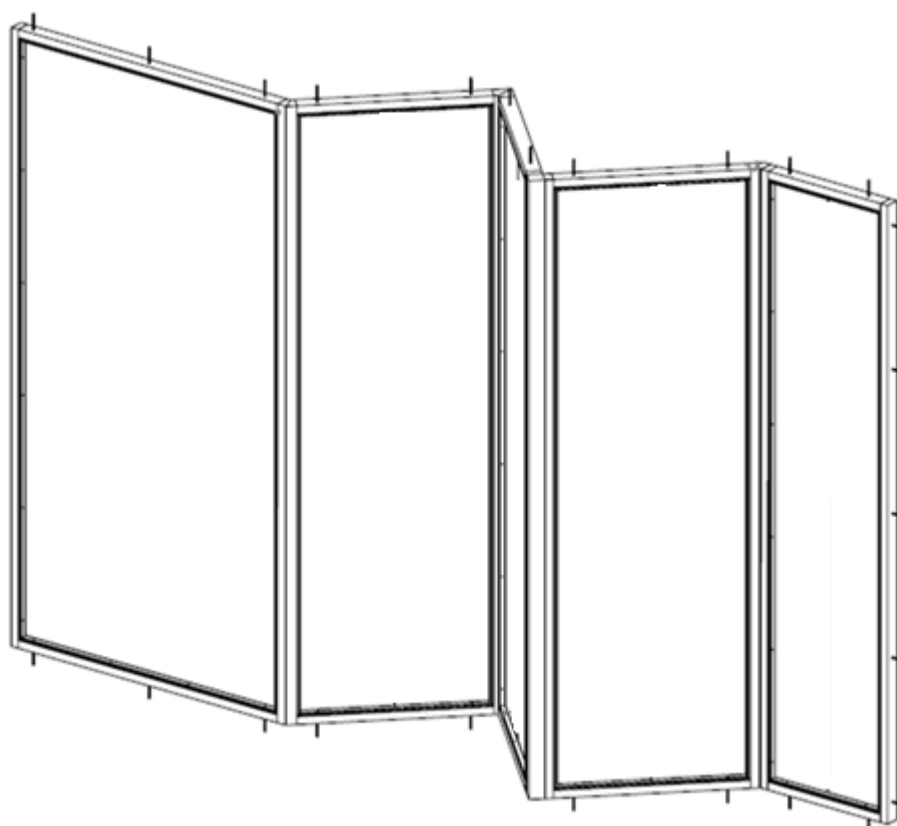

Figure 6 Angled joints with mullions without glass-glass joints
- Angled mullions without glass-glass joints (Figure 6)